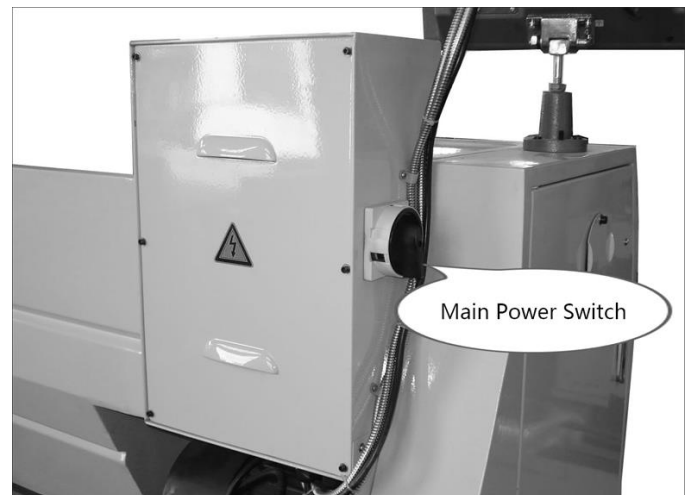

Figure 3
11. Connect the lathe to power source, and then turn the main power switch to the **ON** position (**Figure 3**)
The main power switch is shown in **Figure 3**. It turns master power **ON/OFF** to the lathe.